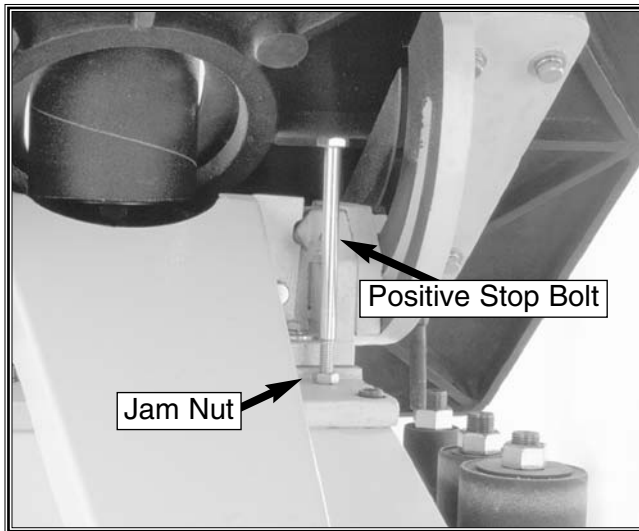

Figure 16. Loosen the jam nut to allow the positive stop bolt to be adjusted.
2. Loosen the jam nut and lower the head of the positive stop bolt as shown in **Figure 16**. *The positive stop bolt is located on the back left corner of the machine.*